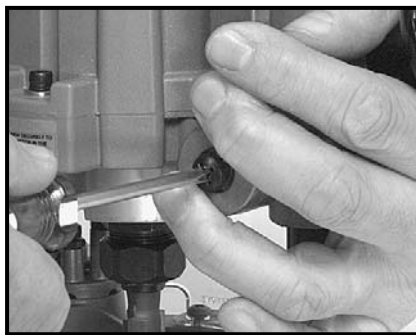

Fig. 14
2. While holding lever in upright position (see Fig. 14). Remove retaining screw. Continue to hold lever through remaining steps.